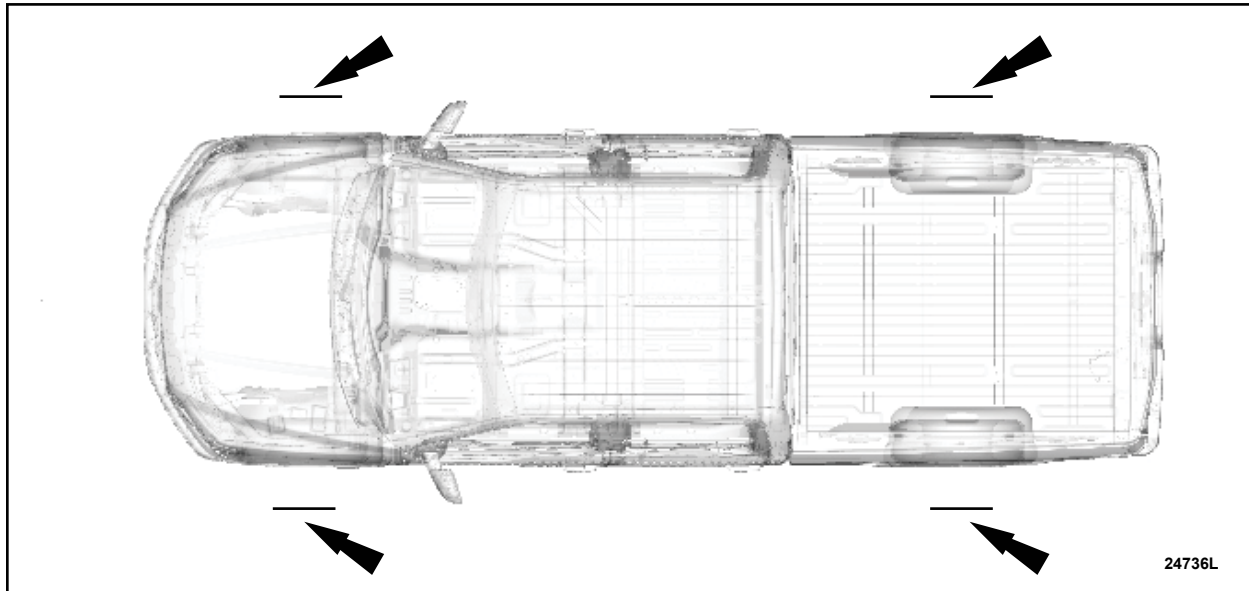

FIGURE 4
8. Create mat spacing guidelines at all 4 tires. See Figure 4.